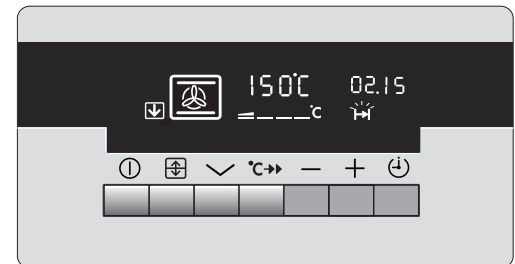

Fig.10.
- iv) To set the length of cooking time, press the Time Selector button until the 'Cook Time' indicator () is illuminated. Press the increase control button (+) until the required length of cooking time is displayed, e.g. 2 hrs 15 mins as Fig. 10. Depress the decrease control button (-) if necessary.